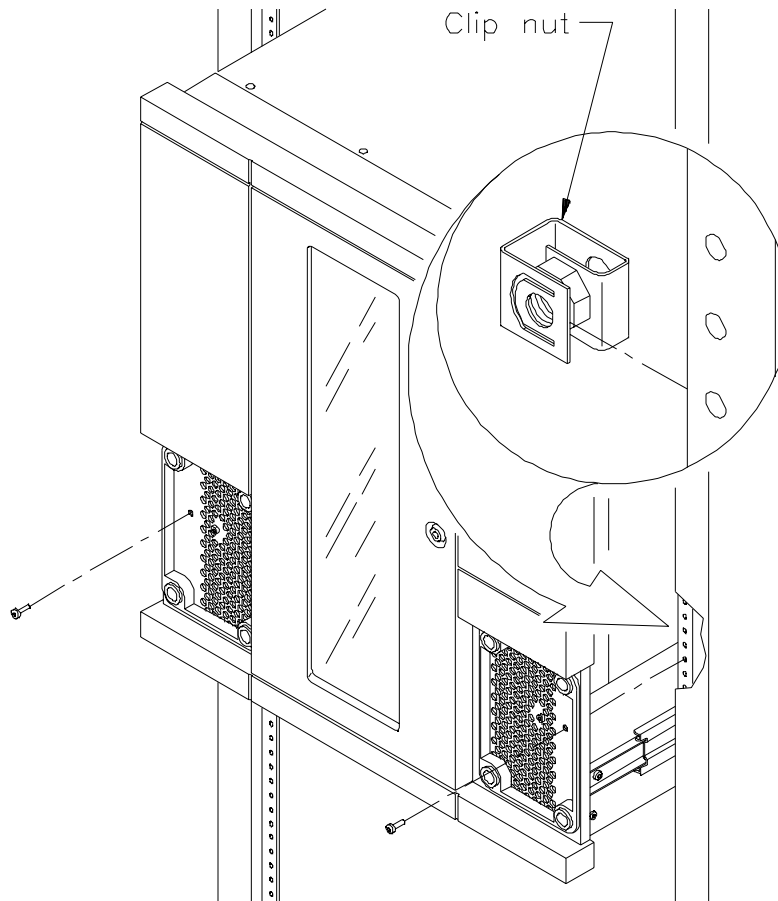

Figure 6-3 Removing the screws from the front of the rack
3. Use a T-25 TORX driver to remove the two pan head screws that secure the library to the rack, as shown in Figure 6-3. A clip nut may have been installed over the screw hole on the rack.